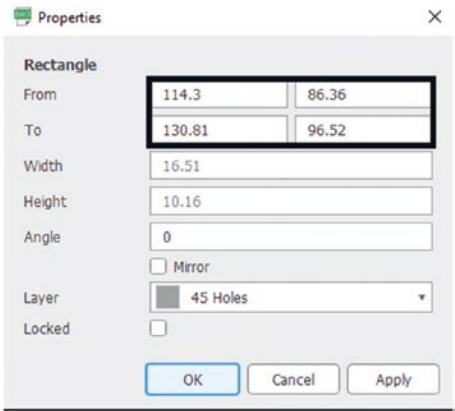

Figure 7-12. Dimensions of the top-right rectangle
10. Here are the top-right rectangle values. See Figure 7-12.